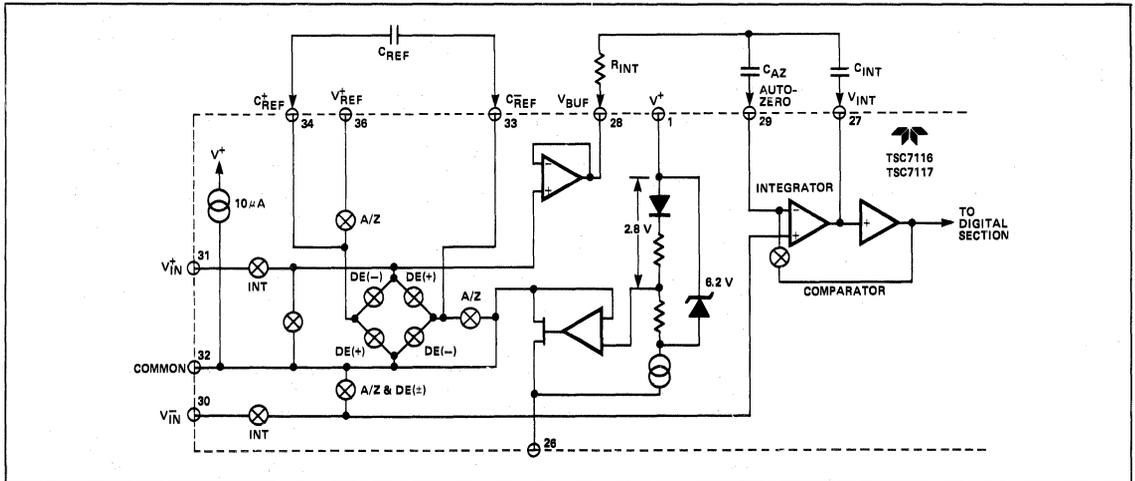

Figure 3: Analog Section of TSC7116/TSC7117
Figure 3 shows the Block Diagram of the Analog Section for the TSC7116 and TSC7117. Each measurement cycle is divided into three phases. They are (1) auto-zero (A-Z), (2) signal integrate (INT) and (3) reference (REF).